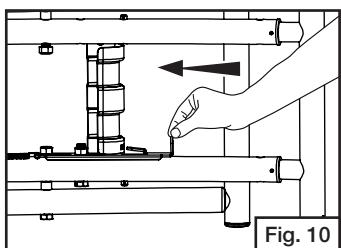

Fig. 10
- **NOTE:** While towing the grill, make sure the latch bracket was securely inserted into slot on the front bracket. (Fig. 10)